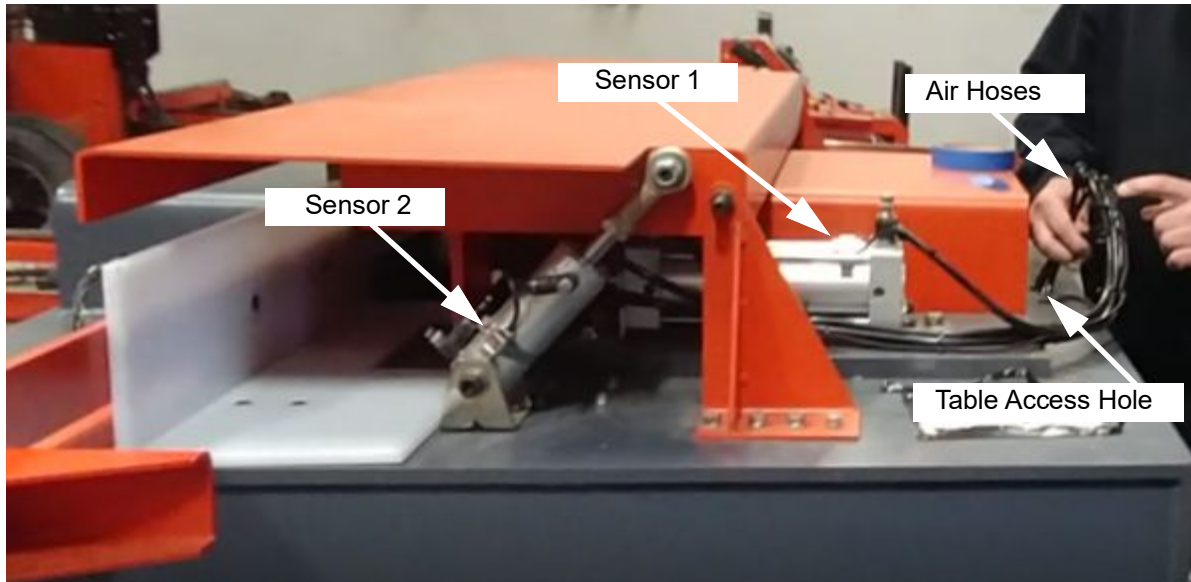

FIG. 4-2
3. Disconnect the air lines from the rear of the pallet notcher. See Fig. 4-2.
f. Drop the sensors through the table access hole. See Fig. 4-2.